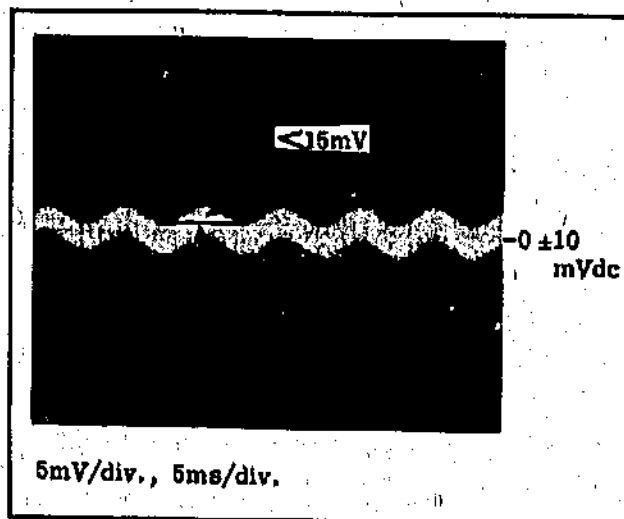

Figure 5-9. Minimized Common Mode Signal at A2TP3.
c. Connect oscilloscope to A1TP3 (see Figure 5-12) and adjust envelope for minimum (less than 15mV peak to peak) with A1R63 (CMR Adj) as shown in Figure 5-9.